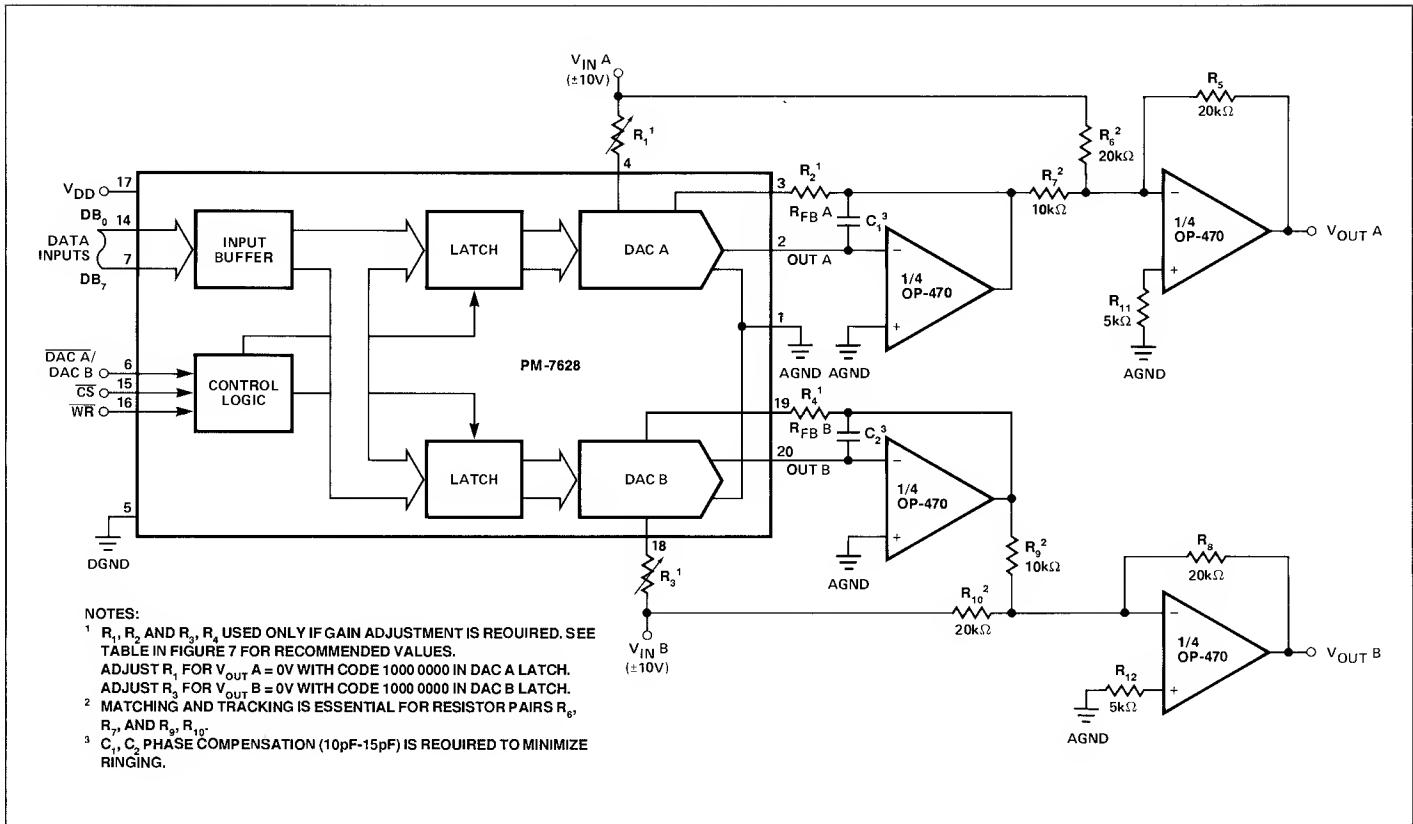

FIGURE 8: Dual DAC Bipolar Operation (4 Quadrant Multiplication). See Table 2.
For bipolar output operation, connect the PM-7628 as shown in Figure 8. This circuit configuration provides an offset current, derived from the reference, to enable the output op amp to swing in both polarities. The digital input coding becomes offset binary. Table 2 provides some example analog outputs for various digital inputs (D). The transfer equation for bipolar operation is $V_{OUT} = V_{IN} \times (D/128 - 1)$, where D is the decimal value of the data bit inputs DB₀ thru DB₇. This circuit provides full four-quadrant multiplication, able to accept \pm polarities on both inputs as well as the circuit output.
TABLE 2: Bipolar (Offset Binary) Code Table. See Figure 8.